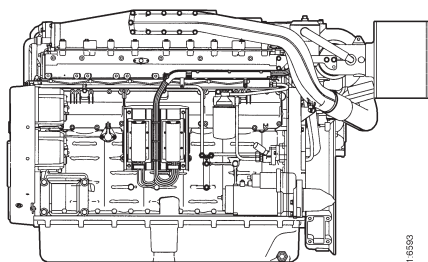

Figure 2
1. Install a transparent plastic hose on each fuel rail bleeder valve (**Figure 2, (1)**). Place the hoses in an appropriate container.
2. Open the bleeder valve and operate the hand pump (**Figure 2, (2)**) until fuel flows without air bubbles. This may take 130 - 150 pump strokes.